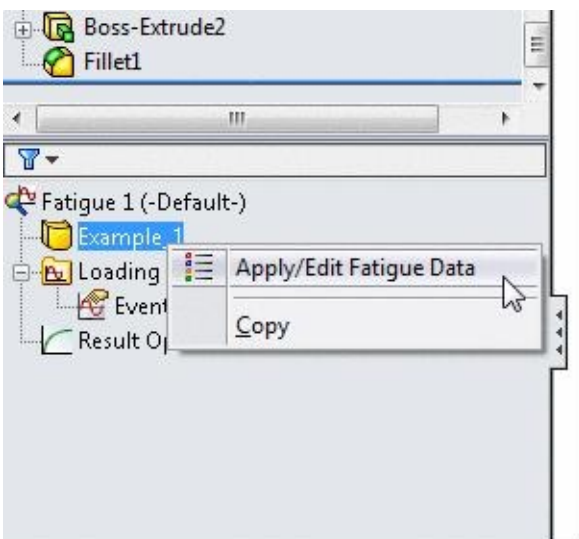

Figure-8. Apply Edit Fatigue Data button
- Right-click on the name of the model in the **Analysis Manager** and select the **Apply/Edit Fatigue data** button; refer to Figure-8.